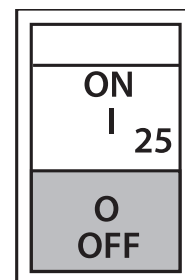

Figure 53. Circuit Breaker OFF (GFCI Test)
6. Also verify that the main circuit breaker (Figure 53) switch trips to the **OFF** position.